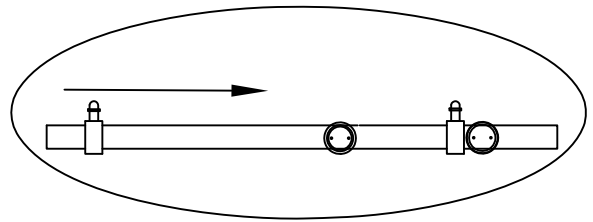

Fig. 7
- Slide Door Stopper (1) onto end of Top Rail (2). The bumpers on Door Stopper (1) should be positioned on the top of Top Rail (2) for final installation. Note: One door stopper comes pre-assembled on top rail between fixed glass bolt assembly. See Fig.7 for details.